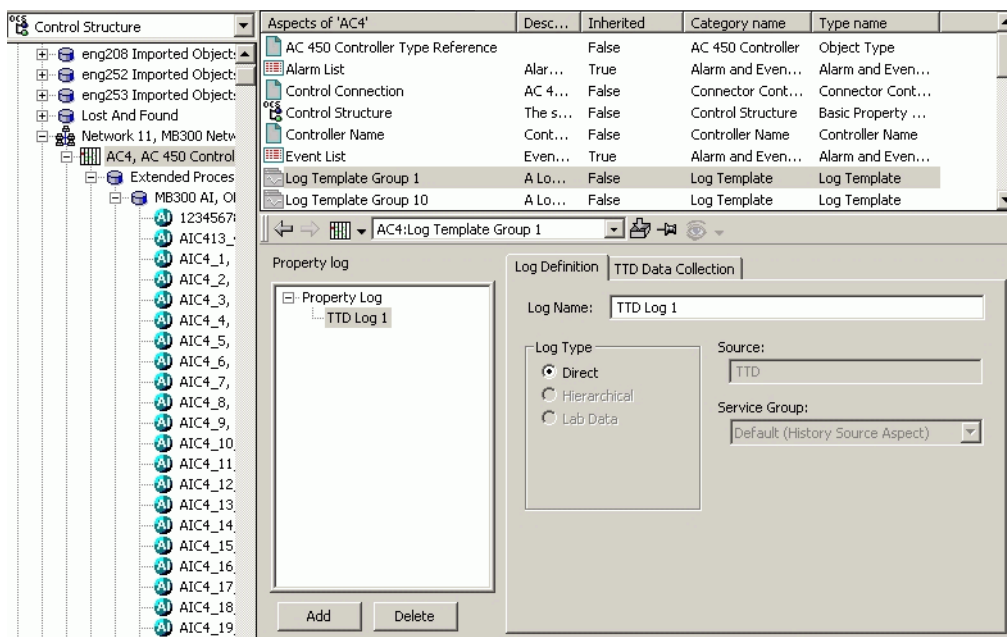

Figure 290. Obtaining the TTD Log Name
- 3. Obtain the TTD log name from the applicable log template which was created in the Aspect Directory for the TTD log group, Figure 290.